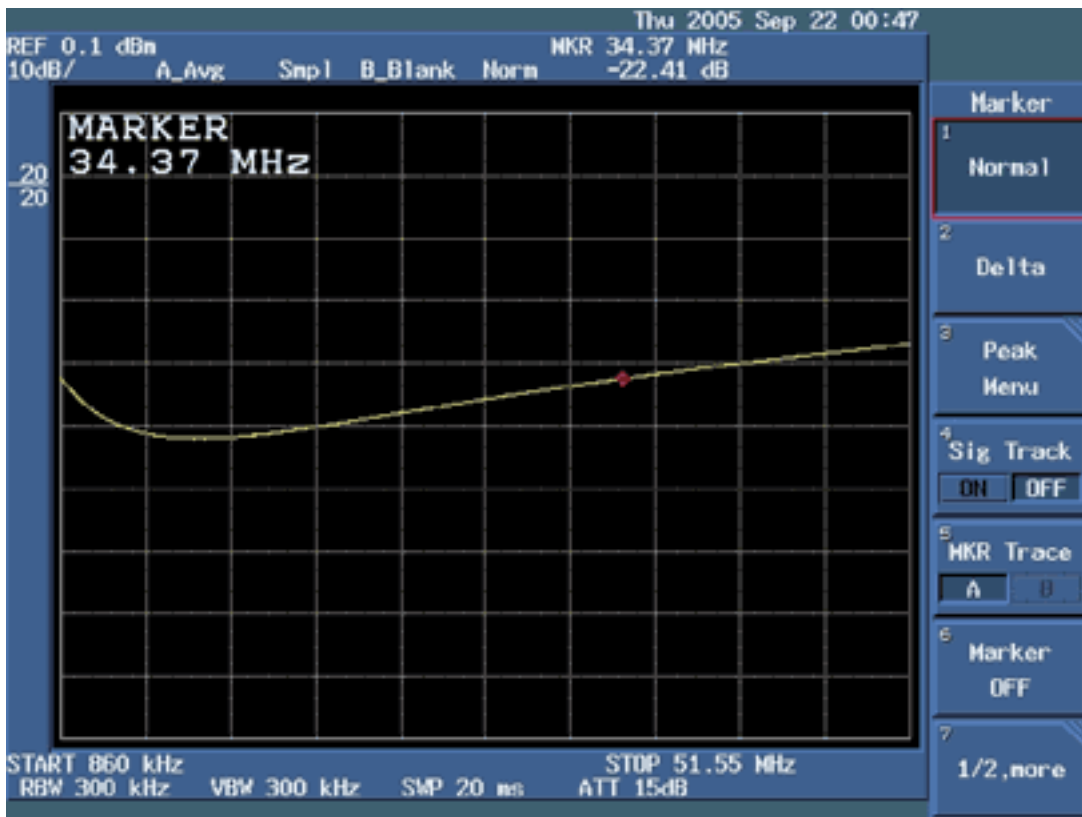

Figure 12. Return loss of the DUT at 34.37MHz.
10. Measure the return loss at **34.368MHz** for the DUT, as shown in **Figure 12**.